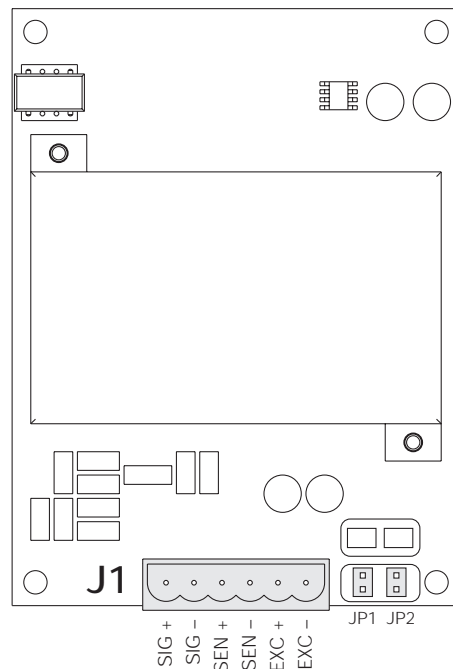

Figure 2. Single-Channel A/D Card
6. Next, remove connector J1 from the A/D card. The connector plugs into a header on the card (see Figure 2). Wire the load cell cable from the load cell or junction box to connector J1 as shown in Table 1.